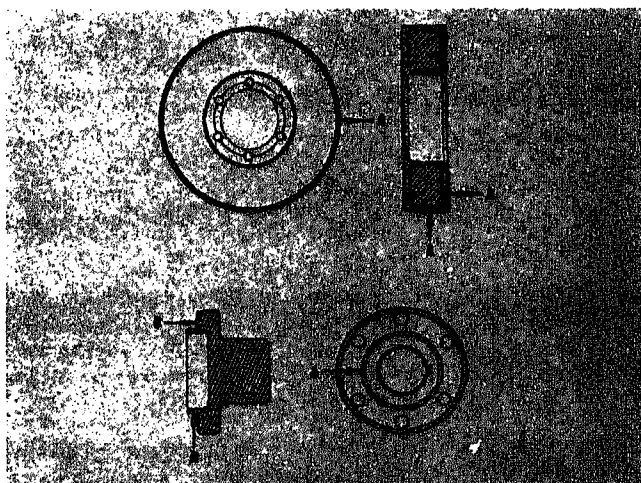

Fig. 14-1-52. Damper and flange eccentricity and wobble
1. Eccentricity of vibration damper mounting flange measured on the outside diameter of the pilot must not exceed 0.004 in. [0.1016 mm] total indicator reading, (A, Fig. 14-1-52).
2. Wobble in the vibration damper mounting flange must not exceed 0.003 in. [0.0762 mm] measured at 2 3/4 in. [69.8500 mm] radius (B, Fig. 14-1-52).